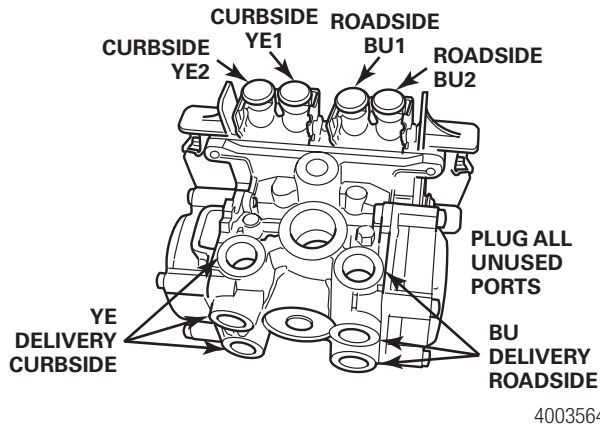

Figure 19
- If the ECU/dual modulator valve assembly is mounted with the sensors facing the FRONT of the trailer, the air lines for the three delivery ports located under the YE sensor connectors must be routed to CURBSIDE; the air lines for the three delivery ports on the opposite side of the valve must be routed to ROADSIDE. Figure 19.